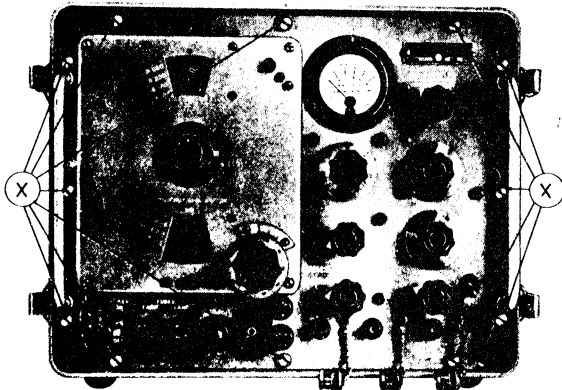

Figure 6-2. Front Panel View for Removal of RF Signal Generator SG-44C/URM-25 from Cabinet
- (1) Remove the power cable (W-101).
- (2) Loosen the twelve captive screws located around the outer edge of the panel (See figure 6-2).
- (3) Gently pull the generator chassis about eight inches from the cabinet, using the lifting handles provided on the front panel. The generator unit cannot be completely removed since the interconnecting power cable (W-102) and output power cable (W-103) are still connected to the power supply sub-chassis.
- (4) Remove the output power supply connector (P-102) and the AC input connector (P-101) from the